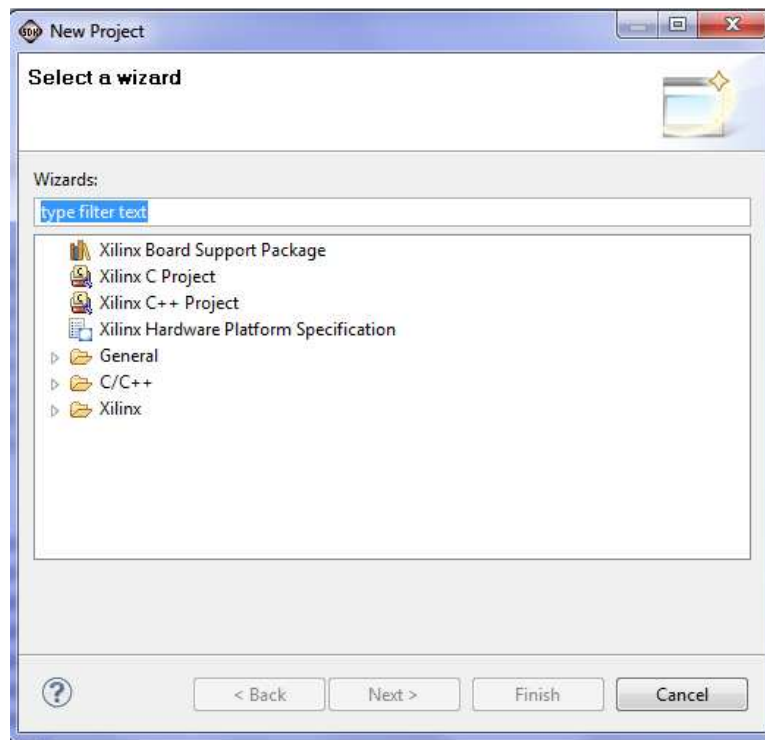

Figure 22. New Project (Step 4)
Step 4: The following step is that we create a C project using the SDK. In the project explorer window, right click the window a menu will show up; select New->Project. A new project window will appear as shown in Figure 22. A list of projects that can be created is shown. Select “Xilinx C Project” which will start a Wizard to create a simple C program. Select “Xilinx C Project” then click “Next” to continue.